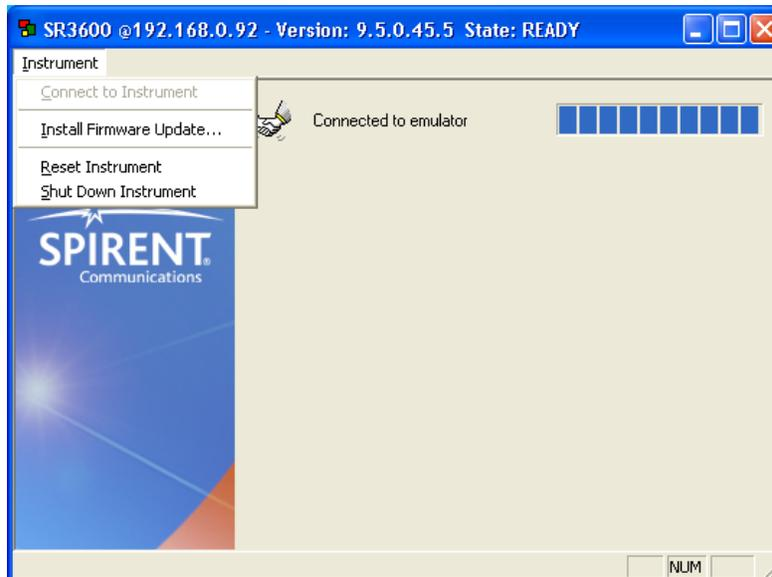

Figure 2-16: Opening the Firmware Update
3. In the *Upgrade* window, select **Instrument>Install Firmware Update** as shown in Figure 2-16.